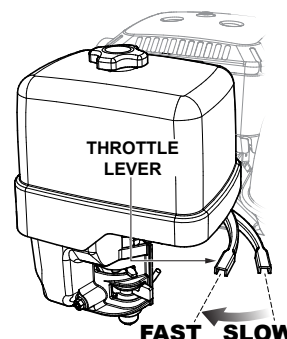

Figure 23. Throttle Lever
4. Move the throttle lever halfway between the **FAST** and **SLOW** position (Figure 23) for starting.
1. Place the throttle lever (Figure 23) in the slow position, and listen for the engine speed to decrease.